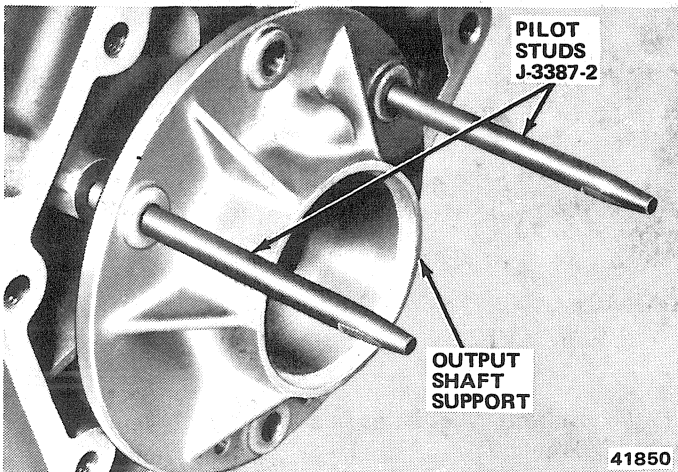

**Fig. 2C-90 Overrunning Clutch Cam Removal**
- (12) Alternately and evenly tighten retaining screws to 100 inch-pounds (11 N•m) torque.
- (13) Thread two Pilot Studs Tool J-3387-2 into case (fig. 2C-91).
- (14) Position illuminated light bulb next to case to heat case.
- (15) Chill support with ice (preferably dry ice).
- (16) Remove light, position support over pilot studs and install support in case using wood block and hammer.
- (17) Install and tighten support attaching bolts to 150 inch-pounds (17 N•m) torque.